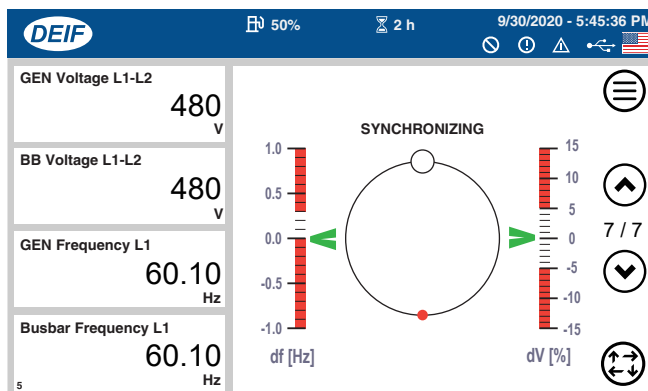

Figure 148. Synchronization Status Screen
15. Verify that the **Synchronization Status** screen (7 of 7) is shown on the touch display of **generator #1**. See Figure 148.
16. Observe as the small red circle (Figure 148) rotates about the axis, indicating that synchronization between the generators is in progress.